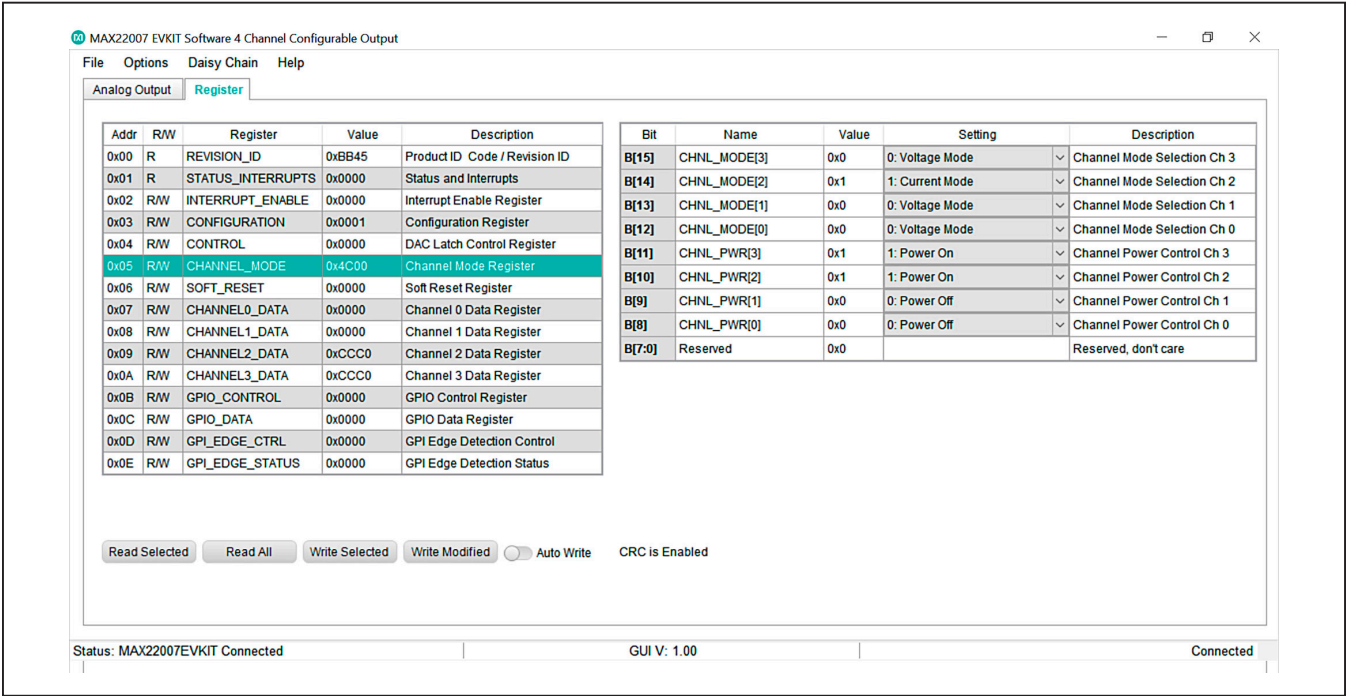

Figure 2. MAX22007 EV Kit Software, Register Tab
- 16) Inspect the contents of register 0x0A CHANNEL3_DATA and register 0x09 CHANNEL2_DATA are 0xCCCC and match the values from the previous steps (Figure 2).